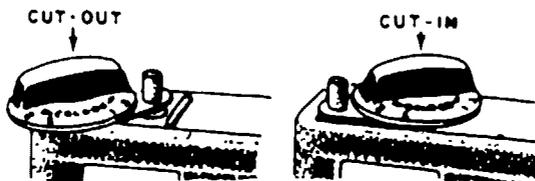

Figure 6. Control Knob and Lock Plate Set for Cut-In and Cut-Out
1. Remove the control knob and lock plate assembly as required (see figure 6).